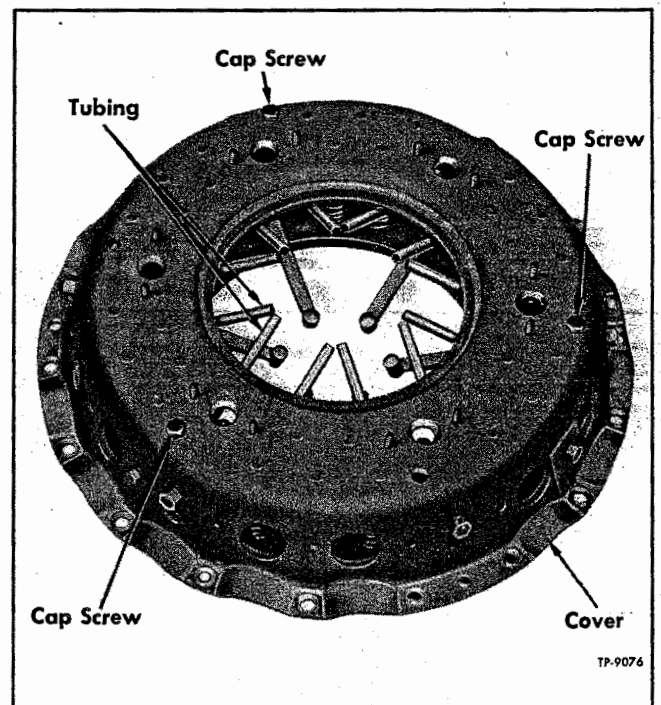

Figure 13—Installing Cover Plate on Pressure Plate
3. When insulating washers (28) and springs (27) are in position, set cover (25) over springs (27), fitting each spring guide (26) on cover into corresponding spring. Cover must assume original position in relation to pressure plate. Refer to alignment marks made at disassembly to determine correct position. Drive blocks (4) must enter slots in pressure plate.
4. See that ends of springs (12) do not catch under cover, pieces of tubing 3/8 inch by 4-1/2" long may be placed on spring ends shown in figure 13, to guide ends of springs past cover.
5. Install three long cap screws, 3/8" - 16 x 2", fig. 13) through holes in cover plate, starting each screw into tapped hole in pressure plate, then tighten special screws alternately and in gradual stages to compress springs (27) and bring threaded ends of yokes (10) into respective holes
6. Thread adjusting nuts (11) onto yokes (10) so that end of yoke is approximately flush with top of nut.
7. Install adjusting nut thrust plates (48) tightening plate retaining nuts (49) firmly.
8. Remove three long cap screws shown in figure 13, that were installed in step 5.